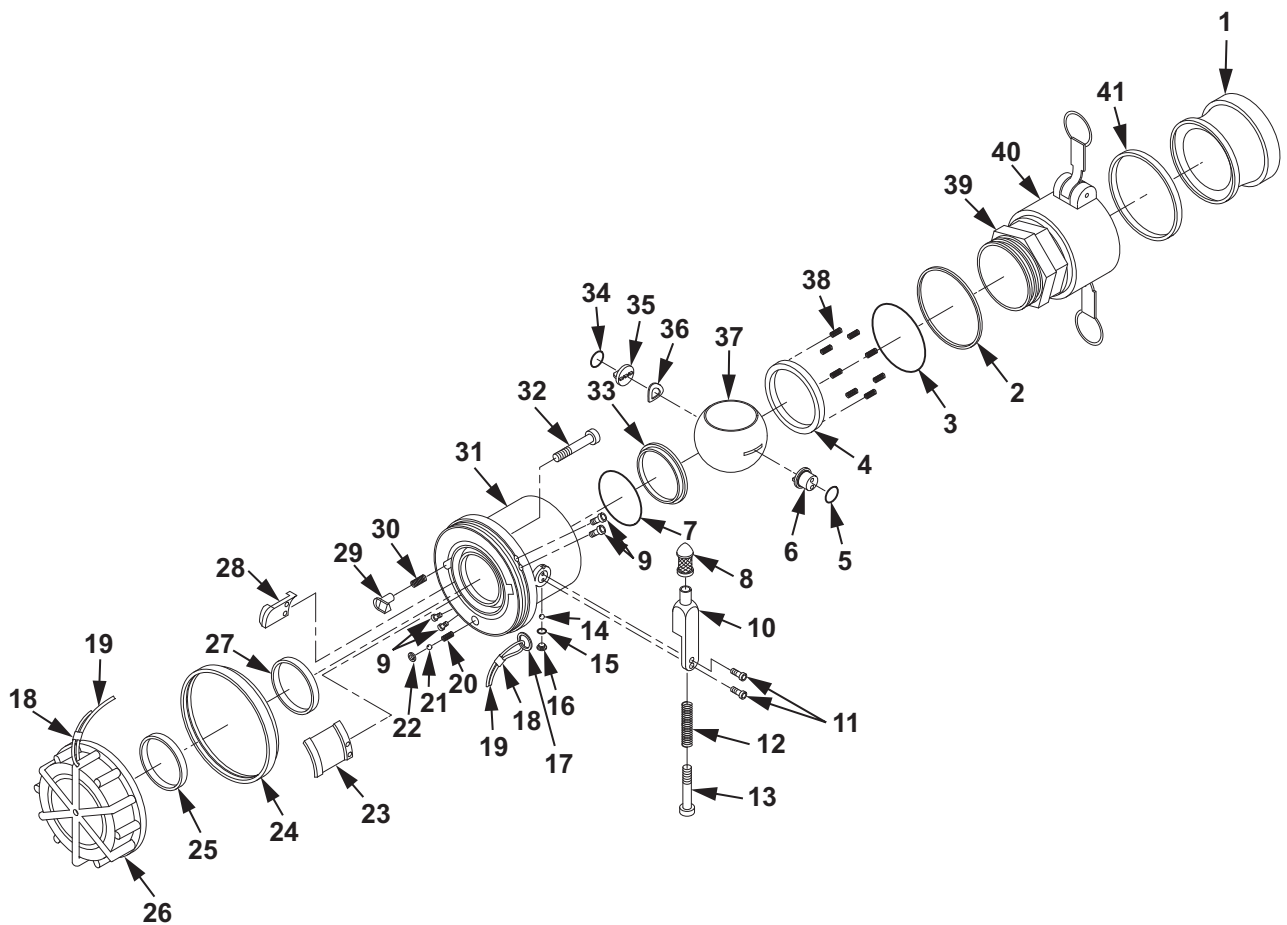

Figure 3. Valved Dry-Break Coupling Disassembly.
If it was necessary to replace lockout pin (Figure 3, Item 29), perform the following installation steps.
1. Install screw (Figure 3, Item 32) into coupling (Figure 3, Item 31).
2. Install spring (Figure 3, Item 30) into coupling (Figure 3, Item 31) and over screw (Figure 3, Item 32).
3. Install lockout pin (Figure 3, Item 29) into coupling (Figure 3, Item 31).
4. Tighten screw (Figure 3, Item 32) until ramp edge of lockout pin (Figure 3, Item 29) is even with or slightly below the adjacent ledge of coupling (Figure 3, Item 31).
If it was necessary to replace bumper (Figure 3, Item 24) or lugs (Figure 3, Item 23, 28), perform the following installation steps.
5. Position lug (Figure 3, Item 23) or lug (Figure 3, Item 28) in coupling (Figure 3, Item 31).
6. Install screws (Figure 3, Item 9) into coupling (Figure 3, Item 31).
7. Using torque wrench and screwdriver bit, torque screws (Figure 3, Item 9) to 6 in. lb (0.70 N•m).
8. Position bumper (Figure 3, Item 24) with thin lip seal end facing away from coupling (Figure 3, Item 31).
9. Install bumper (Figure 3, Item 24) on coupling (Figure 3, Item 31).
If it was necessary to replace dust cap (Figure 3, Item 26), perform the following installation steps.
10. Lightly lubricate new seal (Figure 3, Item 27) with petrolatum and install into coupling (Figure 3, Item 31).
11. Loop one end of cable (Figure 3, Item 19) through sleeve (Figure 3, Item 18), dust cap (Figure 3, Item 26) and back through sleeve (Figure 3, Item 18).
12. Using pliers, crimp sleeve (Figure 3, Item 18).
13. Loop other end of cable (Figure 3, Item 19) through sleeve (Figure 3, Item 18), split ring (Figure 3, Item 17) and back through sleeve (Figure 3, Item 18).
14. Using pliers, crimp sleeve (Figure 3, Item 18).
15. Lightly lubricate new seal (Figure 3, Item 27) with petrolatum and install into coupling (Figure 3, Item 31) interface.
16. Install dust cap (Figure 3, Item 26) on coupling (Figure 3, Item 31).
17. Lightly lubricate new O-ring (Figure 3, Item 5) with petrolatum and install new O-ring (Figure 3, Item 5) on control arm shaft (Figure 3, Item 10).
If it was necessary to disassemble control arm (Figure 3, Item 10), perform the following assembly steps.
18. Place spring (Figure 3, Item 19) on screw (Figure 3, Item 13).
19. Install screw (Figure 3, Item 13) into control arm (Figure 3, Item 10).
20. Install knob (Figure 3, Item 8) on control arm (Figure 3, Item 10).
21. Tighten screw (Figure 3, Item 13) hand tight.
22. Install control arm shaft (Figure 3, Item 6) inside coupling (Figure 3, Item 31).
23. Position control arm (Figure 3, Item 10) with holes on control arm shaft (Figure 3, Item 6).
24. Install screws (Figure 3, Item 11) through control arm (Figure 3, Item 10) and into control arm shaft (Figure 3, Item 6).
25. Using torque wrench and screwdriver bit, torque screws (Figure 3, Item 11) to 8 in. lb (0.90 N•m).
26. Lightly lubricate new O-ring (Figure 3, Item 7) with petrolatum and install new O-ring (Figure 3, Item 7) in coupling (Figure 3, Item 31).